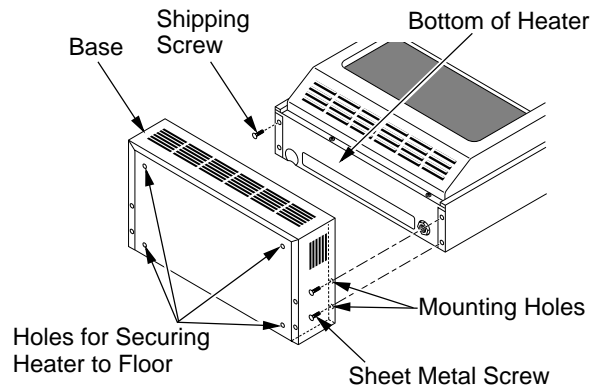

Figure 16 - Attaching Heater to Hearth Base
1. Position hearth base in desired location. Mark holes for drilling (see Figure 16). Remove hearth base.
3. Line up mounting holes on top of hearth base with holes in bottom of heater (see Figure 16).
4. Using a Phillips screwdriver, secure hearth base to heater with four sheet metal screws (see Figure 16).